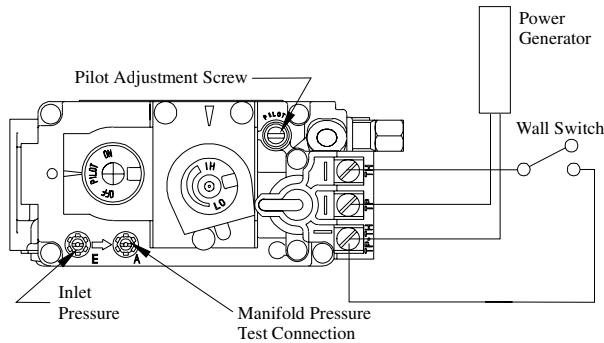

Figure 25. Sit Nova 820 gas valve.
1. Locate Pilot Adjustment Screw. (See figure 25.)